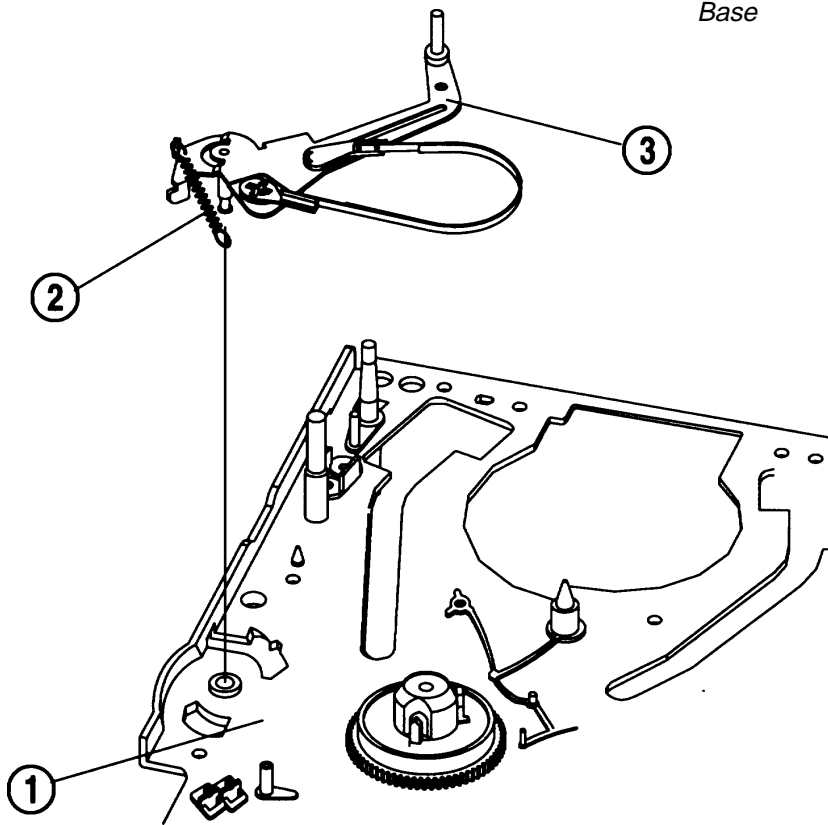

Fig. 24 Tension Band Assembly Removal
Tension Band Assembly Removal (Fig. 24, 25)
1. Remove the tension spring (2) from the main base (1). (Fig. 24)